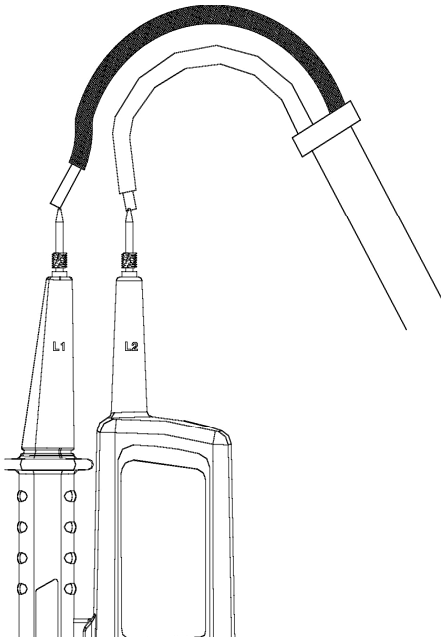

Fig. 3: AC voltage measurement
2. Connect the L1 and L2 probes to the object under test (see Fig. 3). The measurement is performed **only when probes are in contact to live conductors**.